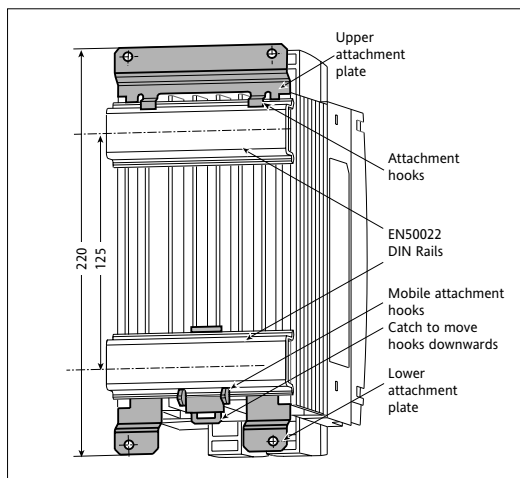

Figure 2-1 Rails DIN attaching.
2.2.2. ATTACHMENT PLATES (figures 2-1 and 2-2)